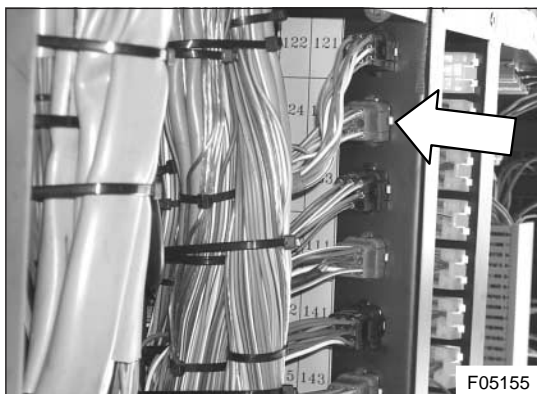

Figure 1: Location of connector #123, on the right hand side rack, second row from the top.
3. Open the main junction box in the luggage compartment and locate multi-wire connectors #123 and #701 on the connector racks (see Figures 1 and 2).